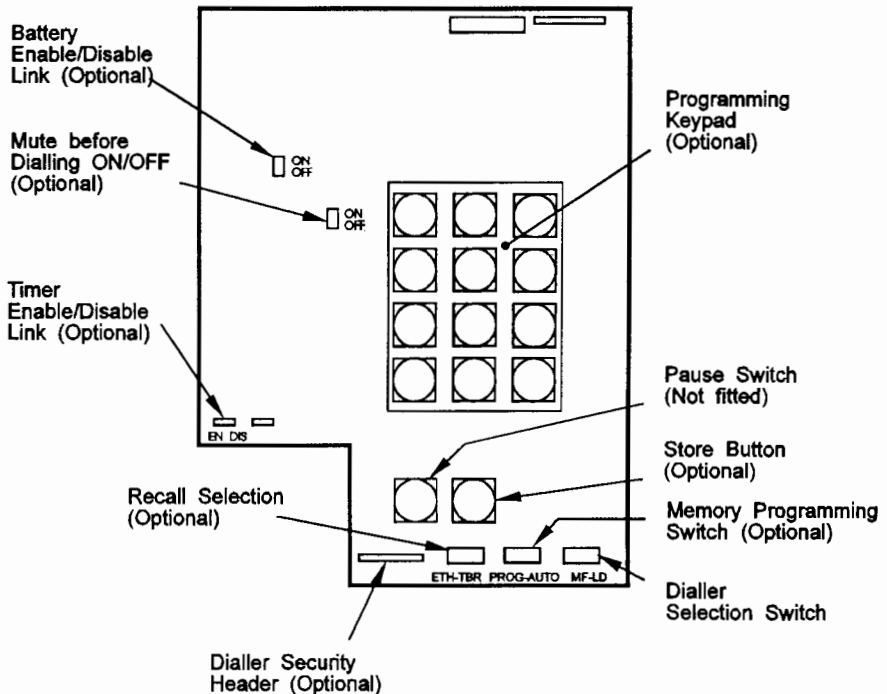

Fig 1
Select LD or MF signalling by moving the **Dialling Selection Switch** to the right for LD or to the left for MF operation when viewed as in *Fig 1*.
1. Set the Memory Programming Switch firmly to the **PROG** position (*see Fig.1*).
see Fig.1. The number for the designated position is now entered into memory.